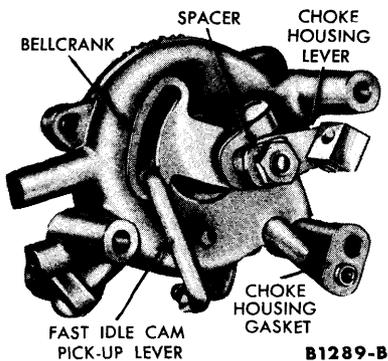

FIG. 18—Bellcrank Installation
6. Position the bellcrank on the choke housing shaft and temporarily tighten the screw (Fig. 18).
7. Place the choke housing lever and spacer on the choke housing shaft and install the retaining nut. Install the fast idle cam pick-up rod and washer on the bellcrank (Fig. 18).